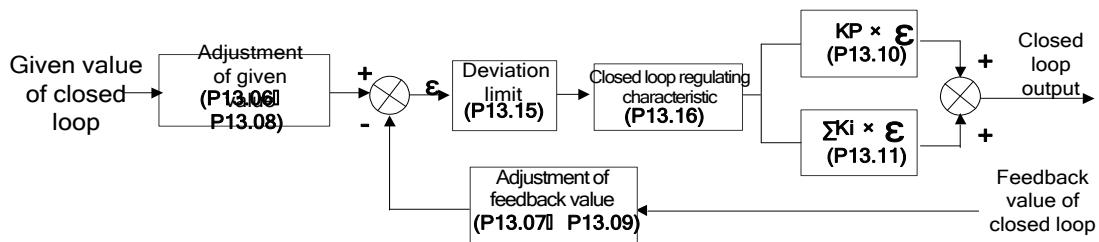
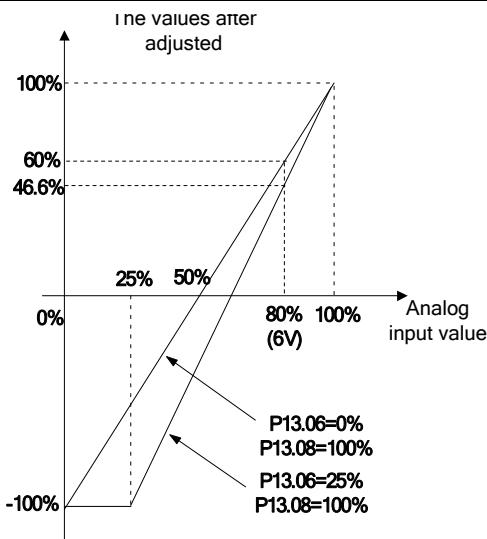

Fig.6-61 Schematic Diagram of Process Closed Loop Control
Fig. 6-64 Given Value Adjustment Curve Diagram
The block diagram of working principle of HSD2000 built-in process closed loop is given in Fig. 6-61; KP: proportional gain; Ki: integral gain.
In Fig. 6-61, the definitions of given value, feedback value, deviation limit and proportional integral parameters of closed loop are the same as ordinary closed loop regulation meaning, respectively see P13.01~P13.15 definitions.
The meaning of adjustment of given value and feedback value in Fig. 6-61 is that given value and feedback value adopt internal unified value.
The relation of given value adjustment in P13.06 and P13.08 in Fig. 6-61 is as shown in Fig. 6-64. When analog input is 6V, if P13.06=0% and P13.08=100%, the converted value after adjustment is 60%; if P13.06=25% and P13.08=100%, the converted value after adjustment is 46.6%.
- As shown in Fig. 6-64, scaling analog input of horizontal axis 0 % ~ 100 % is - 10V ~ 10V; analog input 10V corresponds to 100% and - 10V corresponds to 0%, and 6V corresponds to 80%.
As shown in Fig. 6-61, the relation curve of feedback value adjustment in P13.07 and P13.09 is relative to the adjustment of given value. The values after adjusted can be observed by the function code P01.29.